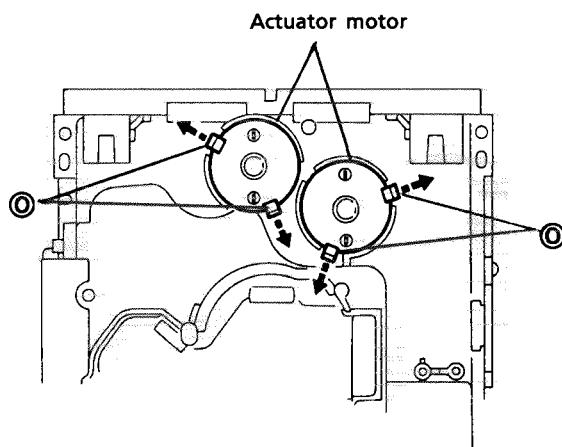

Fig. 39
5. Reverse the chassis ass'y and widen 4 pawls **O** which secure both actuator motors to its arrows to remove the actuator motors. (See Fig.39.)